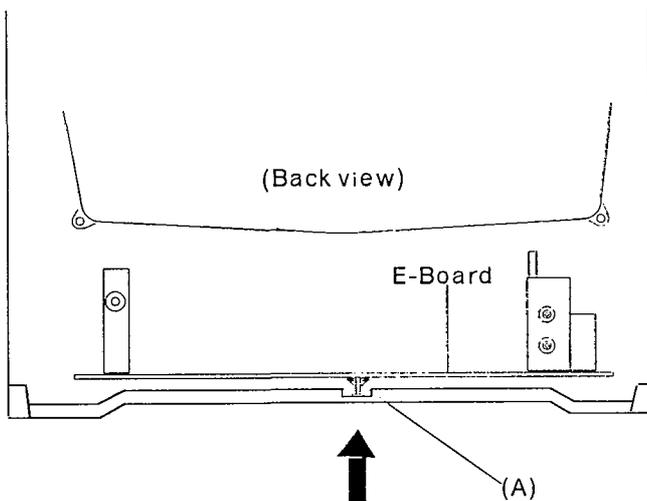

Fig. 3
1. Using a small screwdriver release the PCB retaining clip (A) as shown in fig.3 and fig.4.